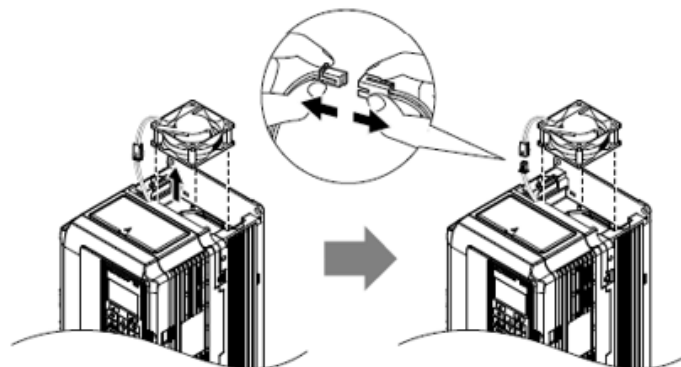

FIGURE 9-9 VFD Fan Disconnect
3. Remove the cooling fan module. Disconnect the individual plug connector and remove fans per Figure 9-9.